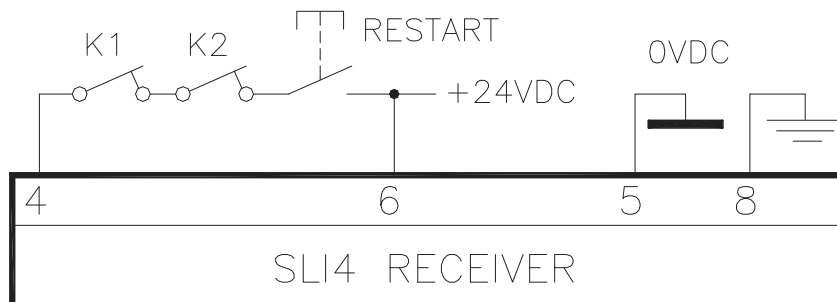

Figure 20 – Manual with K1K2 feedback
- ☛ In the case of manual operation, the RESTART button in series with the NC contacts (feedback) of the external contactors K1/K2 (Figure 20) must also be present.